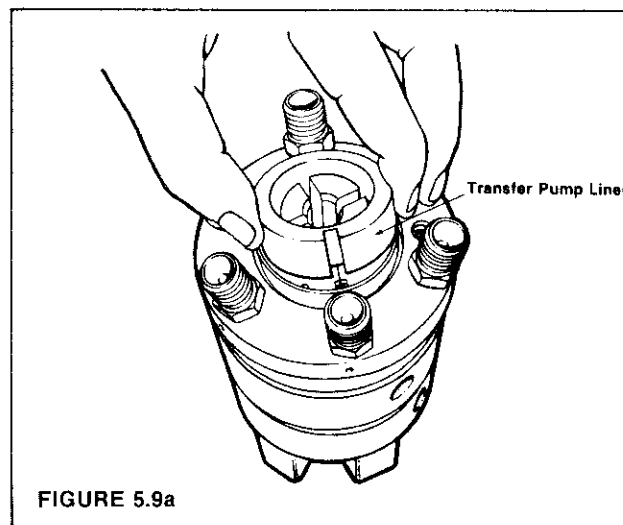

FIGURE 5.9a
STEP 9 Insert the transfer pump liner so that the slot is in line with the hole which the regulator assembly rollpin enters (Figure 5.9a).